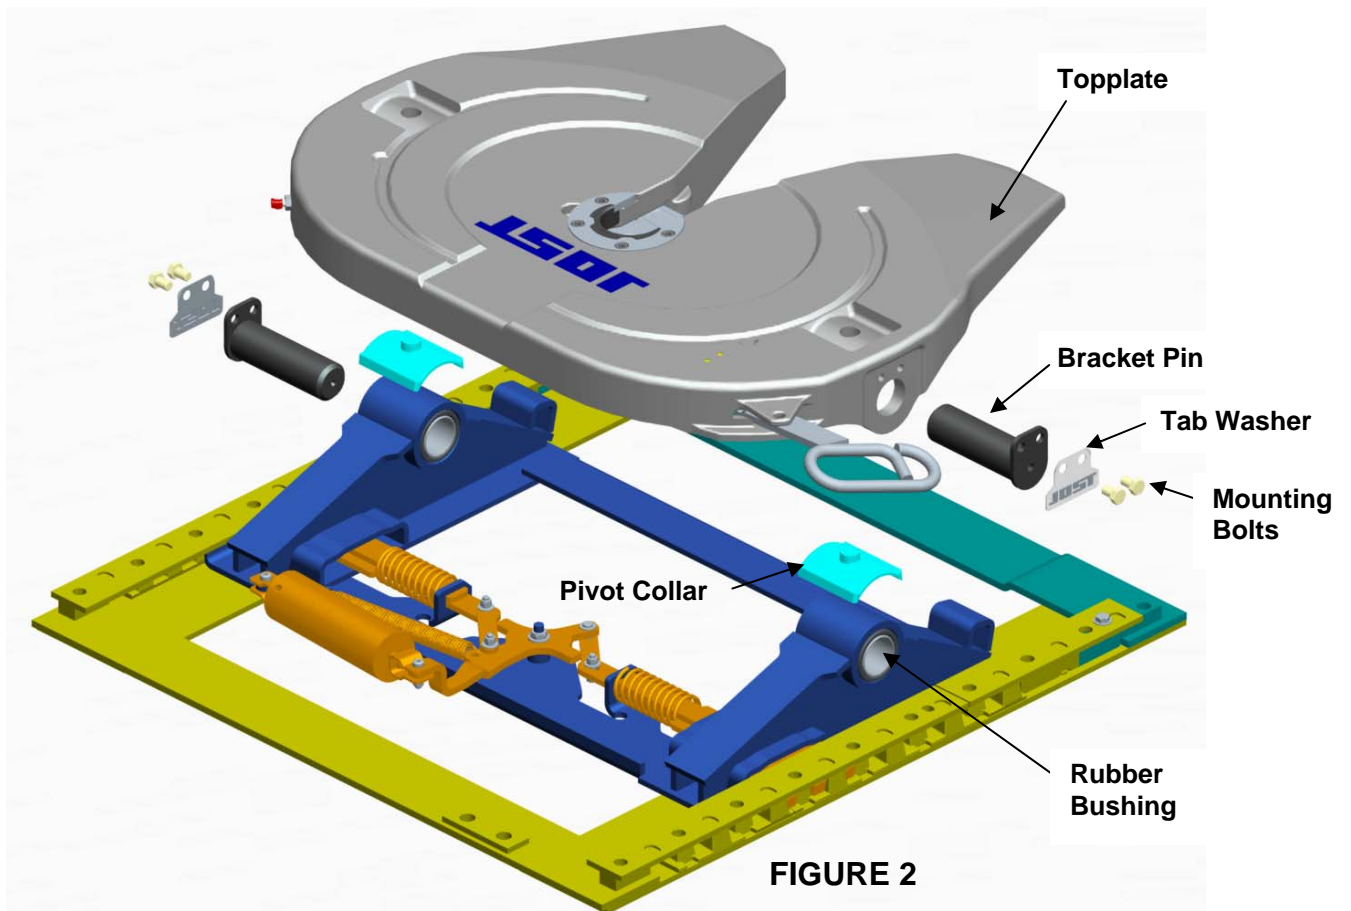

FIGURE 2
1. Straighten the tab washers (see figure 2 on page 1) securing the mounting bolts.